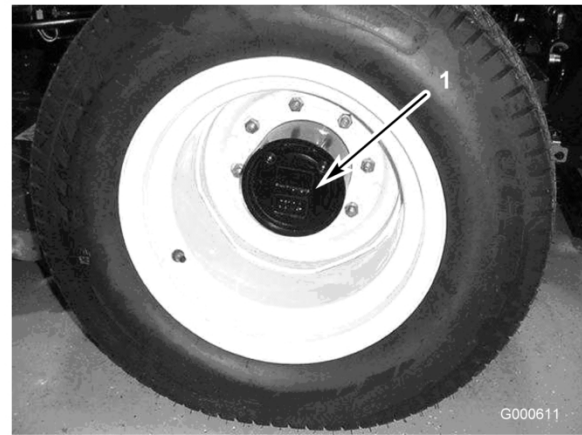

Figure 43
1. With the machine on a level surface, position the wheel so that the check/drain plug (Figure 43) is at the lowest position (6 o'clock).